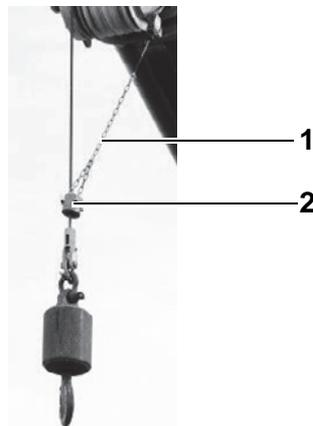

Fig. 247 Lifting limit switch weight
| 4 | Guide the hoist rope through the weight (2) in Fig. 247 and attach the chain (1) in Fig. 247 to the lifting limit switch on the left side as seen in direction of travel. |